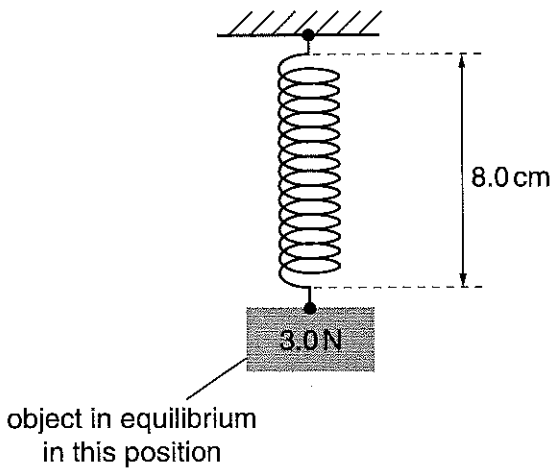

Fig. 7.1
- 7 A light spring of unextended length 2.0cm is hung from a fixed point. An object of weight 3.0N is hung from the other end of the spring. Fig. 7.1 shows the length of the spring when the object is in equilibrium.